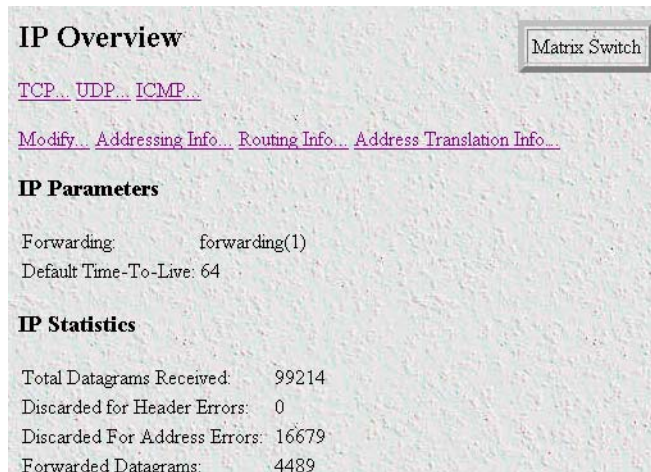

Figure 30. IP Overview page
1. On the *6511RC Configuration Menu* (see figure 27 on page 48), click the *IP* hyperlink to open the **IP Overview** page (see figure 30).